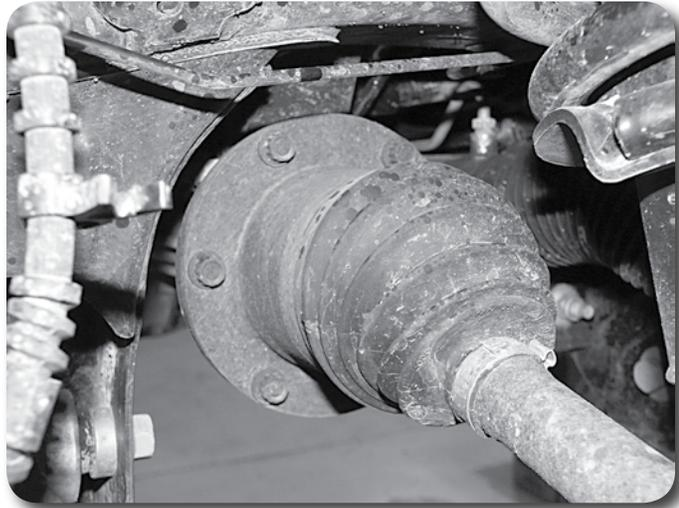

Figure 10
17. Remove the CV axle flange bolts (Figure 10). Retain bolts, they will be reinstalled later.